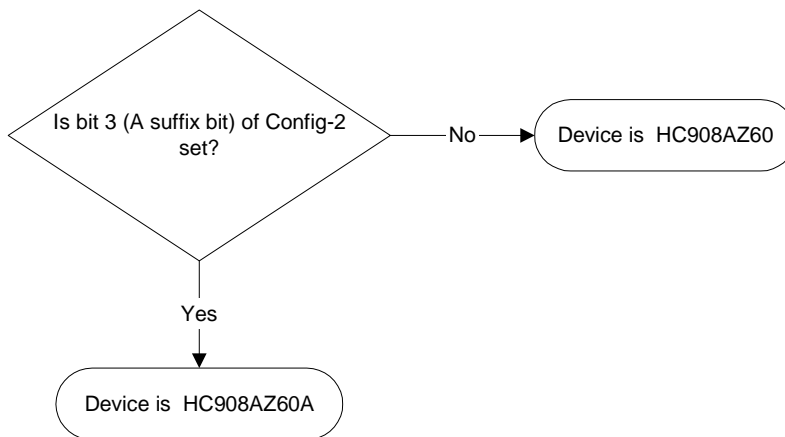
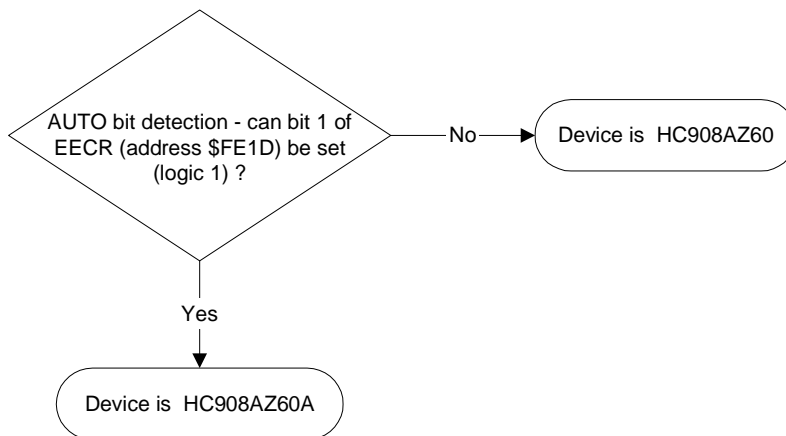
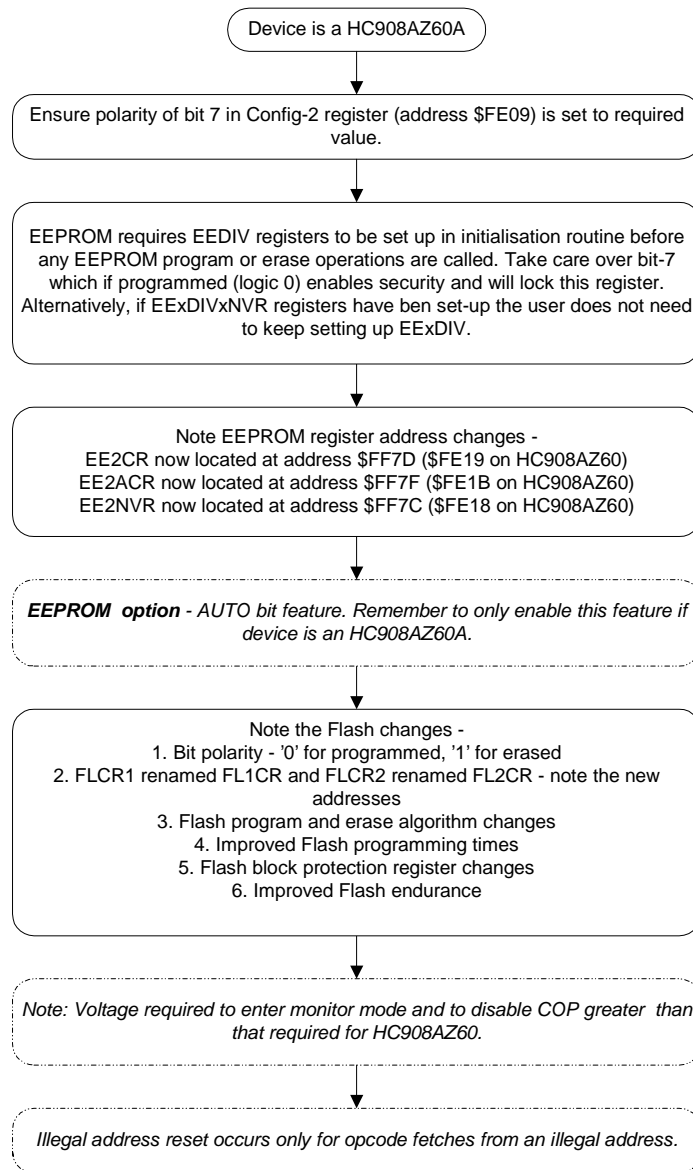

Figure 1. Method to detect a HC908AZ60A
Figure 2. Alternative Method to detect a HC908AZ60A
Figure 3. Main differences to consider when designing in the HC908AZ60A
1. Software detects which device is present and if the device type is HC908AZ60A, complete steps 2 and 3 otherwise continue as normal. **Figure 1** and **Figure 2** on page 10 show methods for performing the device detection.
The HC908AZ60A EEPROM also contains a new feature selected via an AUTO bit in the EEPROM control registers (EE1CR at address \$FE1D for EEPROM module 1 and EE2CR at address \$FF7D for EEPROM module 2). Setting bit-1 of these registers (which is an unused bit in the HC908AZ60 EECR1 and EECR2) enables the AUTO function. The AUTO function enables significantly faster programming/erasing of the EEPROM by allowing the logic of the MCU to automatically use the optimum programming or erasing time for the EEPROM. Using the AUTO function means that the user does not need to wait for the normal minimum specified programming or erasing time. After setting the EEPGM bit as normal the user just has to poll that bit again, waiting for the MCU to clear it indicating that programming or erasing is complete. This feature is not available on the HC908AZ60. Therefore, if code is to be compatible with both devices, the user should first detect which device is present (**Figure 1** and **Figure 2** show methods for performing this task) and then only use the AUTO feature if the device type is HC908AZ60A.
The flowcharts shown in figures 1 and 2 illustrate possible methods for determining whether a device is a HC908AZ60A or a HC908AZ60. Figure 3 is a checklist of the main HC908AZ60A differences.
All of the differences discussed above should be taken into account when transferring HC908AZ60 code for the HC908AZ60A. These differences should also be considered if code is being developed for use on both the HC908AZ60A and the HC908AZ60. The methods shown in Figure 1 and Figure 2 enable detection of HC908AZ60 versus HC908AZ60A and will prove useful if this is required.